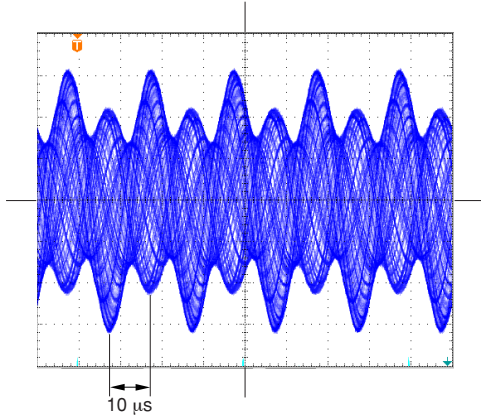
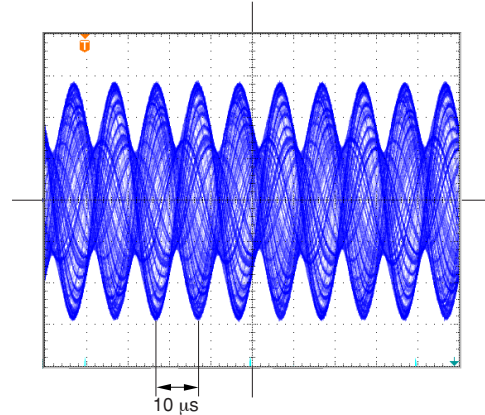

Fig. 6-2
Fig. 6-3
- ③ Turn the GBAL trimmer fully clockwise. Move the scale to observe a waveform as shown in Fig. 6-2. When doing this, adjust the DC1 trimmer so that adjacent peaks are of uniform height, as shown in Fig. 6-3. Note alarm may be triggered when the min. PM signal amplitude becomes smaller than $0.5\ \text{V}_{\text{p-p}}$.
- ④ Set the GBAL trimmer to the fully counterclockwise position and move the scale to observe the waveform as shown in Fig. 6-2, as was done in ③. When doing this, adjust the DC2 trimmer so that adjacent peaks are of uniform height, as shown in Fig. 6-3.